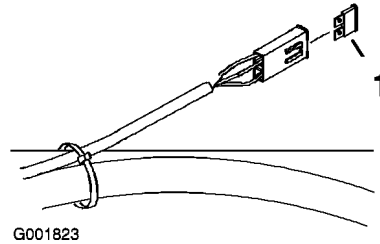

Figure 46
Fuse: Main F1-30 amp, blade-type (Figure 46)
2. To replace fuses pull out on the fuse to remove it (Figure 46).